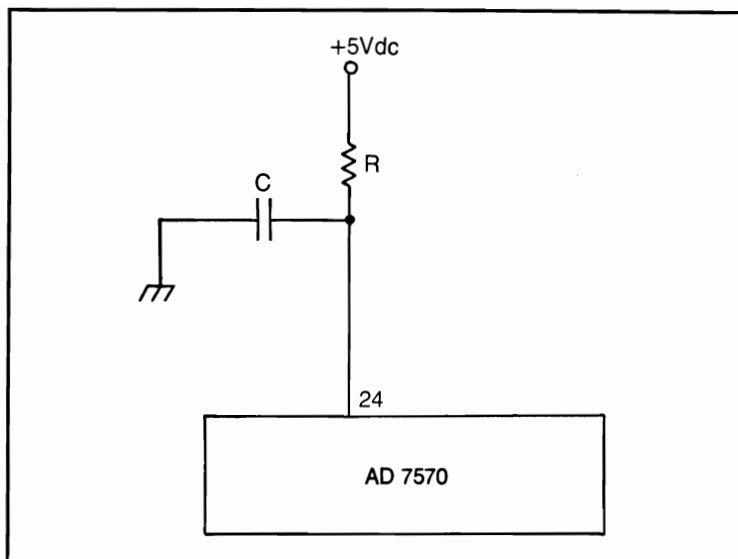

Fig. 14-19. Resistor-capacitor circuit for generating clock frequency.
- **Clock (pin 24, CLK).** With an external resistor-capacitor connected, as shown in Fig. 14-19, clock activity begins on receipt of a CONVERT-START command to the ADC and ceases on completion of the conversion. An external clock (CMOS or TTL/DTL levels) can directly drive the clock terminals, if required. If  $V_{CC}$  is less than 4.75 V, the internal clock does not operate.